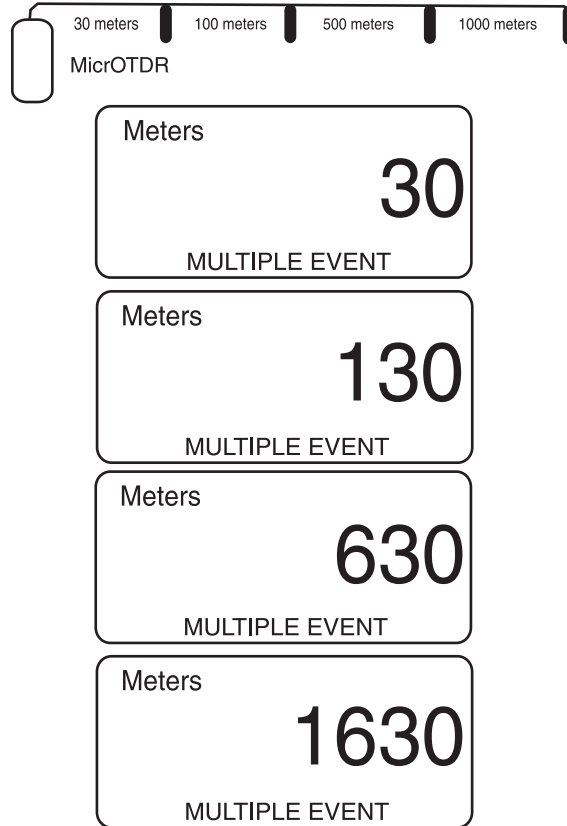

Figure 10
NOTE: The distance to the first event and between events must be at least 30 meters. If any event is less than 30 meters, the MicrOTDR will not recognize that event. Refer to the example in Figure 10. In this example, there are four (4) events that the MicrOTDR will recognize and display. Event (1) will be displayed as 30 meters, event (2) will be displayed as 130 meters, event (3) will be displayed as 630 meters, and event (4) will be displayed as 1630 meters.